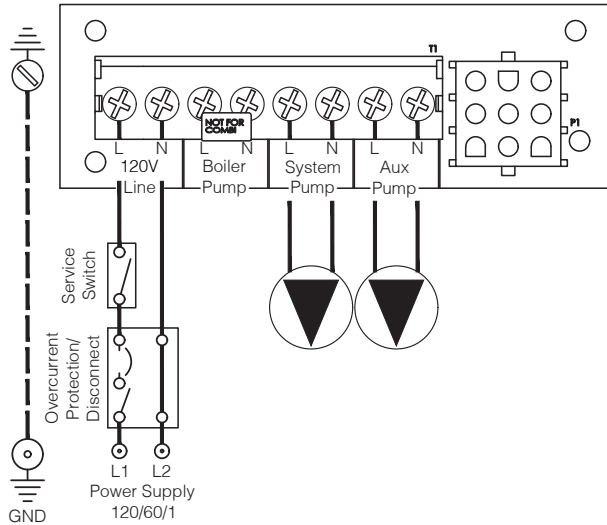

Figure 13-2: 120 VAC Connections
- Connect recirculation pump to "Aux Pump" terminals per Figure 13-2.
2. All 120VAC connections to boiler are made on 120VAC Connections terminal strip (see Figure 13-2) located on right side of bottom panel. Route all 120 VAC wiring through conduit knock out holes located on right side in front of terminal strip.